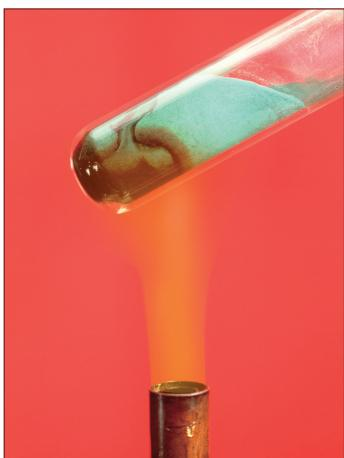

Figure 2.20 Heating copper(II) carbonate.
Substances can mix in a variety of ways, and they can also react chemically with each other. In a reaction, one substance can be transformed (changed) into another. Copper(II) carbonate is a green solid, but on heating it is changed into a black powder (Figure 2.20). Closer investigation shows that the gas carbon dioxide is also produced. This type of chemical reaction, where a compound breaks down to form two or more substances, is known as **decomposition**.